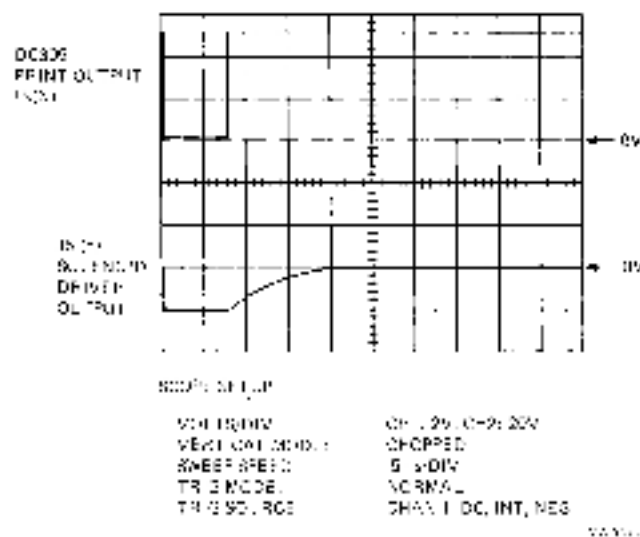
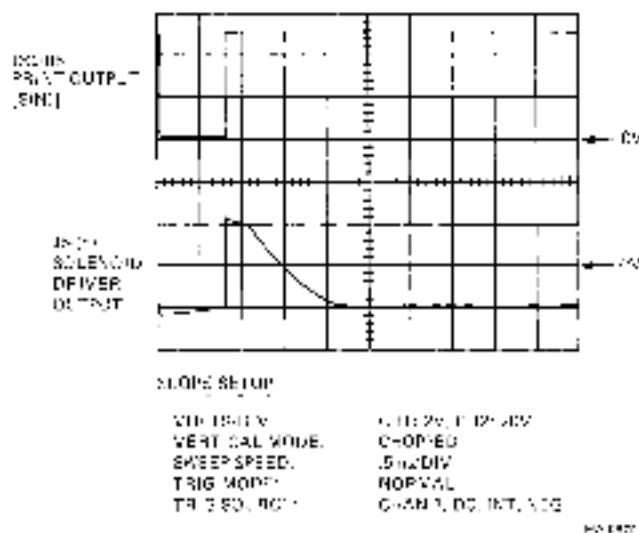

Figure 6-9 Print Solenoid Input vs Output (The Character "I" with Good Driver and Solenoid)
Figure 6-10 Print Solenoid Input vs Output (The Character " " with Good Driver and Open Solenoid)
4. Connect channel 1 of scope to output of the defective channel of the print controller (E14/E9). Set up scope according to Figure 6-9.
6. A good solenoid circuit will produce a waveform similar to Figure 6-9. A waveform with no pulse on channel 1 indicates a bad print controller. A waveform with a pulse on channel 1 but 0 volts on channel 2 indicates a blown driver chip. A waveform similar to Figure 6-10 indicates an open print wire solenoid or cable.